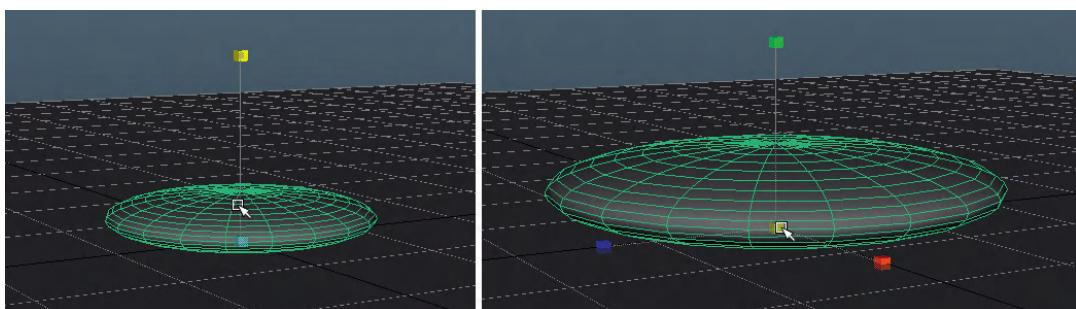

FIG 9.4 Setting the squash (with consideration for Conservation of Volume).
Step 7: Animate the squash with a keyframe at frame 8. To do this, first move the Current Time Marker to frame 8. Then, with the Scale Tool, first scale the sphere down in Y only by dragging on the green cube handle. Then, scale the sphere up in all directions by dragging on the middle light blue cube. Finally, be sure and hit s to set the key (Fig. 9.4).